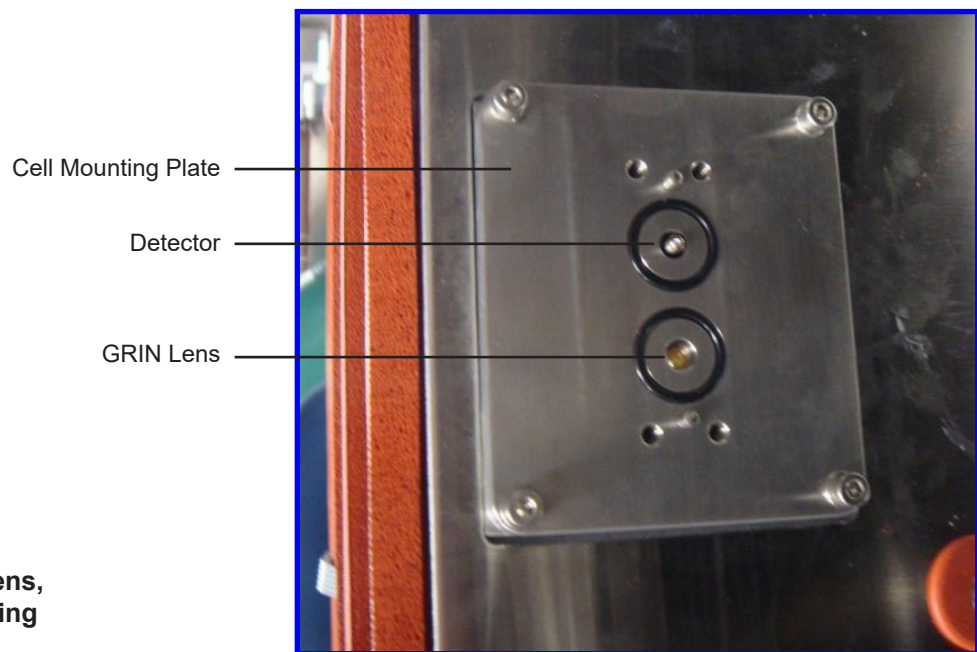

**Figure 2.**
*Do not remove or loosen the four (4) screws that secure the Cell Mounting Plate to the Oven wall (see Figure 2).*
- c. Remove the two (2) Cell Mounting Clamp screws and its bracket. The Cell RTD will disengage from the clamp, but remain in the Oven. While holding the Cell with one hand, carefully guide the Cell and its connected wires (from the Electronics Enclosure) out of the Oven.
Figure 2 shows the Mounting Plate, after the Cell has been removed. Note that there are two (2) o-rings – one around the Detector and one around the Collimator (GRIN Lens). Remove these o-rings.